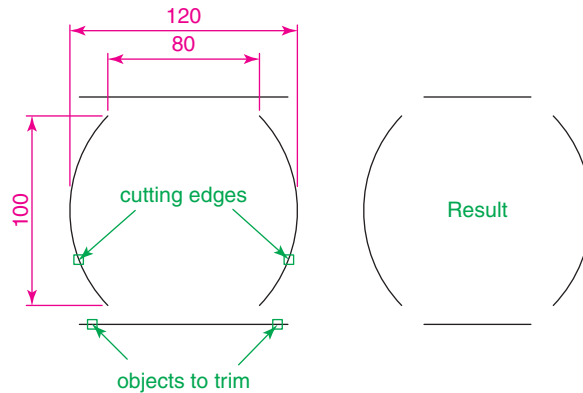

Fig. 5.32 Second example – Trim
Second example – Trim (Fig. 5.32)
- Construct the left-hand drawing of Fig. 5.32.
- Repeat for the other required trims. The result is given in Fig. 5.32.